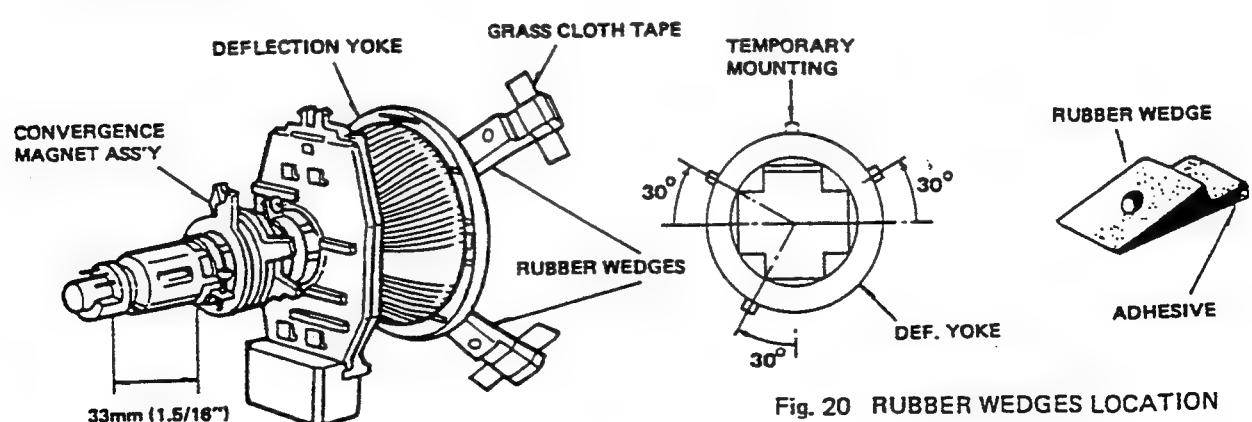

Fig. 20 RUBBER WEDGES LOCATION
Convergence Magnet Assembly and Rubber Wedges need mechanical positioning following Fig. 20.
- (i) Stick 3 grass cloth tapes on wedges as shown in Figure 20.